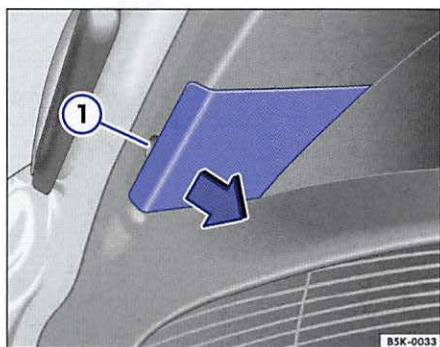

Fig. 172 In the rear hatch: Removing cover.
3. With the flat blade of the screwdriver from the vehicle tool kit (⇒ page 305) carefully pry off the cover at the slot ⇒ fig. 172 ①.